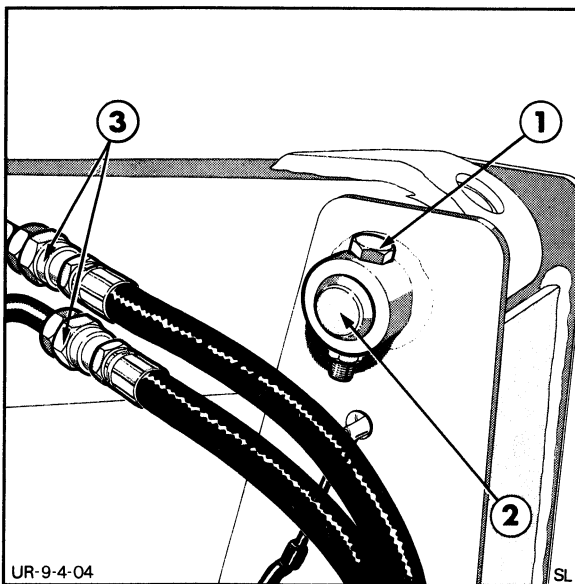

FIGURE 8-169
11. Remove each loader arm pivot pin bolt and remove the pivot pin, Figure 8-169.